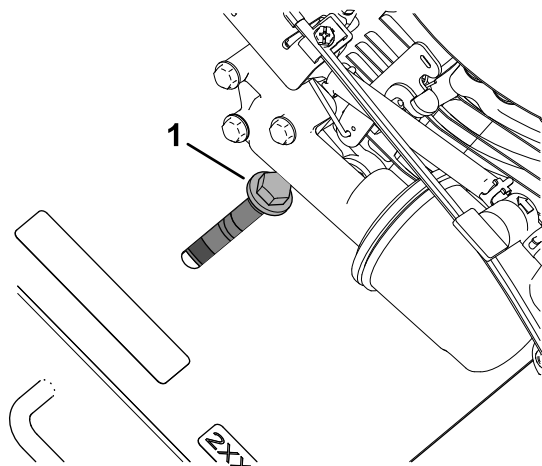

**Figure 50**
1. Remove the locknut (1/4 inch) that secures the fitting of the traction-control cable to the transaxle-control bracket, and separate the cable from the bracket (Figure 50).